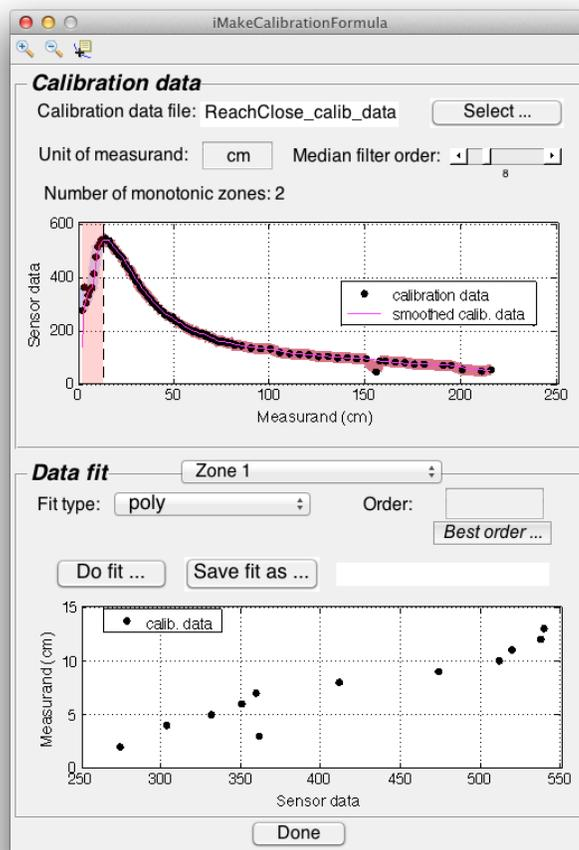
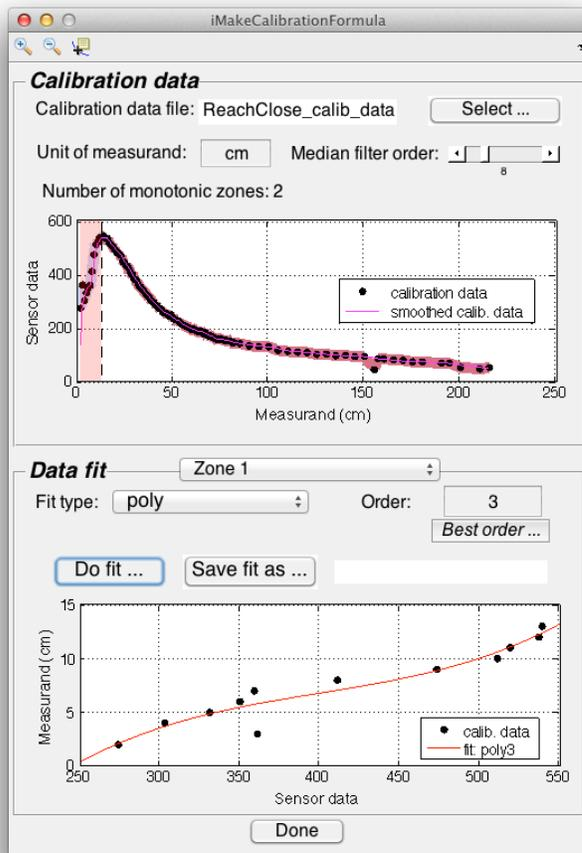

Figure 2: effect of a change in median filter order on the number of monotonic zones detected
Figure 3: Example of a fit using a polynomial of order 3
1. Select a monotonic zone using the drop-down menu (see menu displaying “Zone 1” in Figure 2).
3. Once you have selected a model and set its parameters, you can perform the fit by pressing the **Do fit ...** button (see Figure 2). The fit is then plotted as a red curve in the plot. By visual inspection, you can then determine how good the fit is to your data. An example obtained for Zone 1 of the ReachClose data modeled by a polynomial of order 3 can be found in Figure 3.